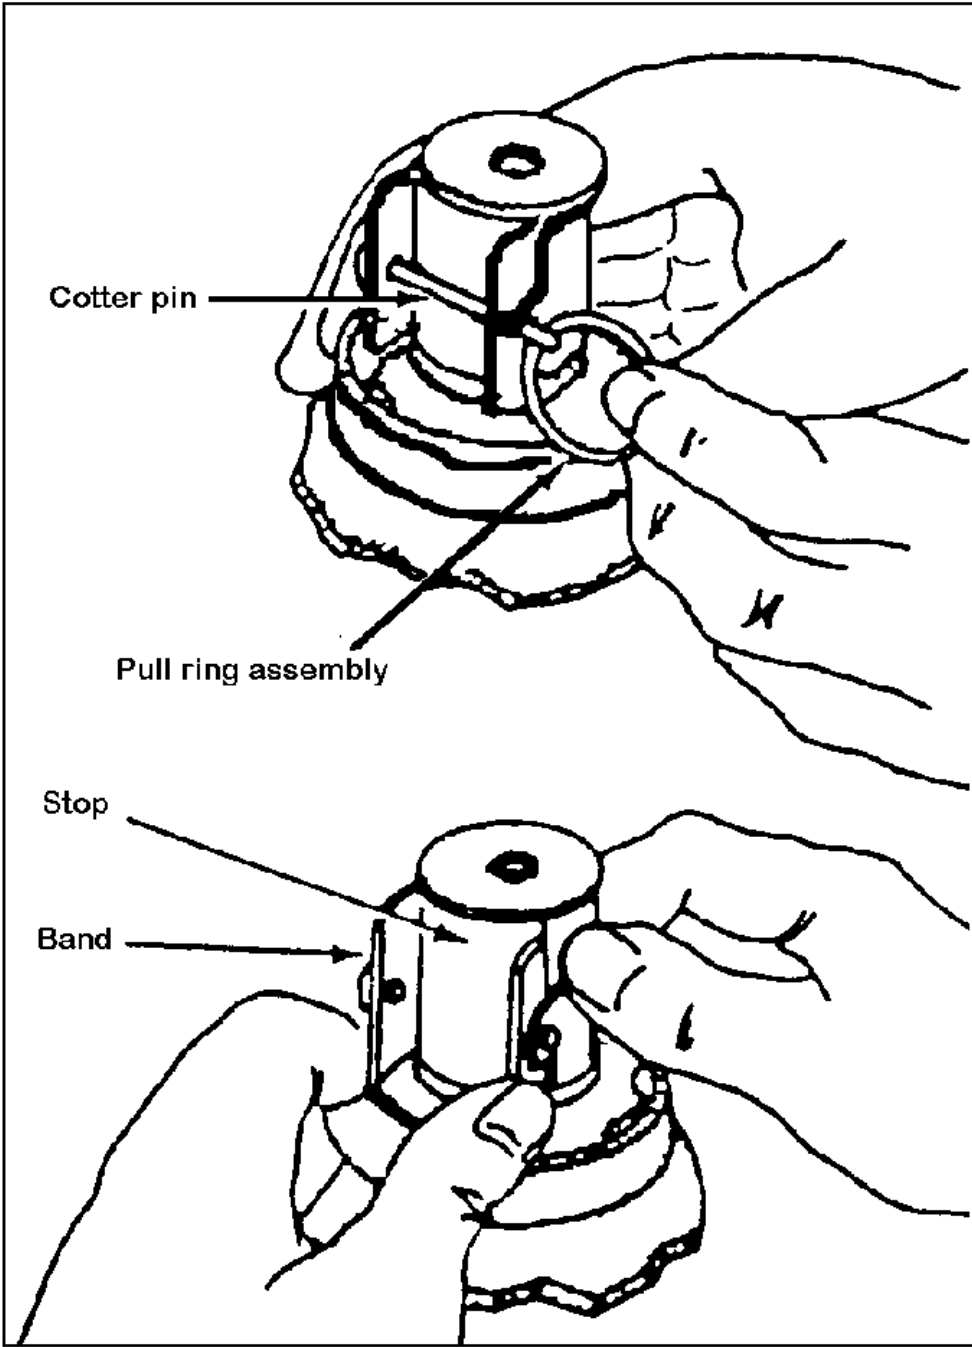

Figure 051-192-1117-5
- a. Squeeze the end of the cotter pin together on the pull ring (Figure 051-192-1117-5).
- b. Remove the cotter pin by holding the fuze firmly in one hand and pulling on the pull ring with the other hand (Figure 051-192-1117-5).
- c. Remove the safety stop and safety band from the fuze slowly and carefully (refer to Figure 051-192-1117-5).